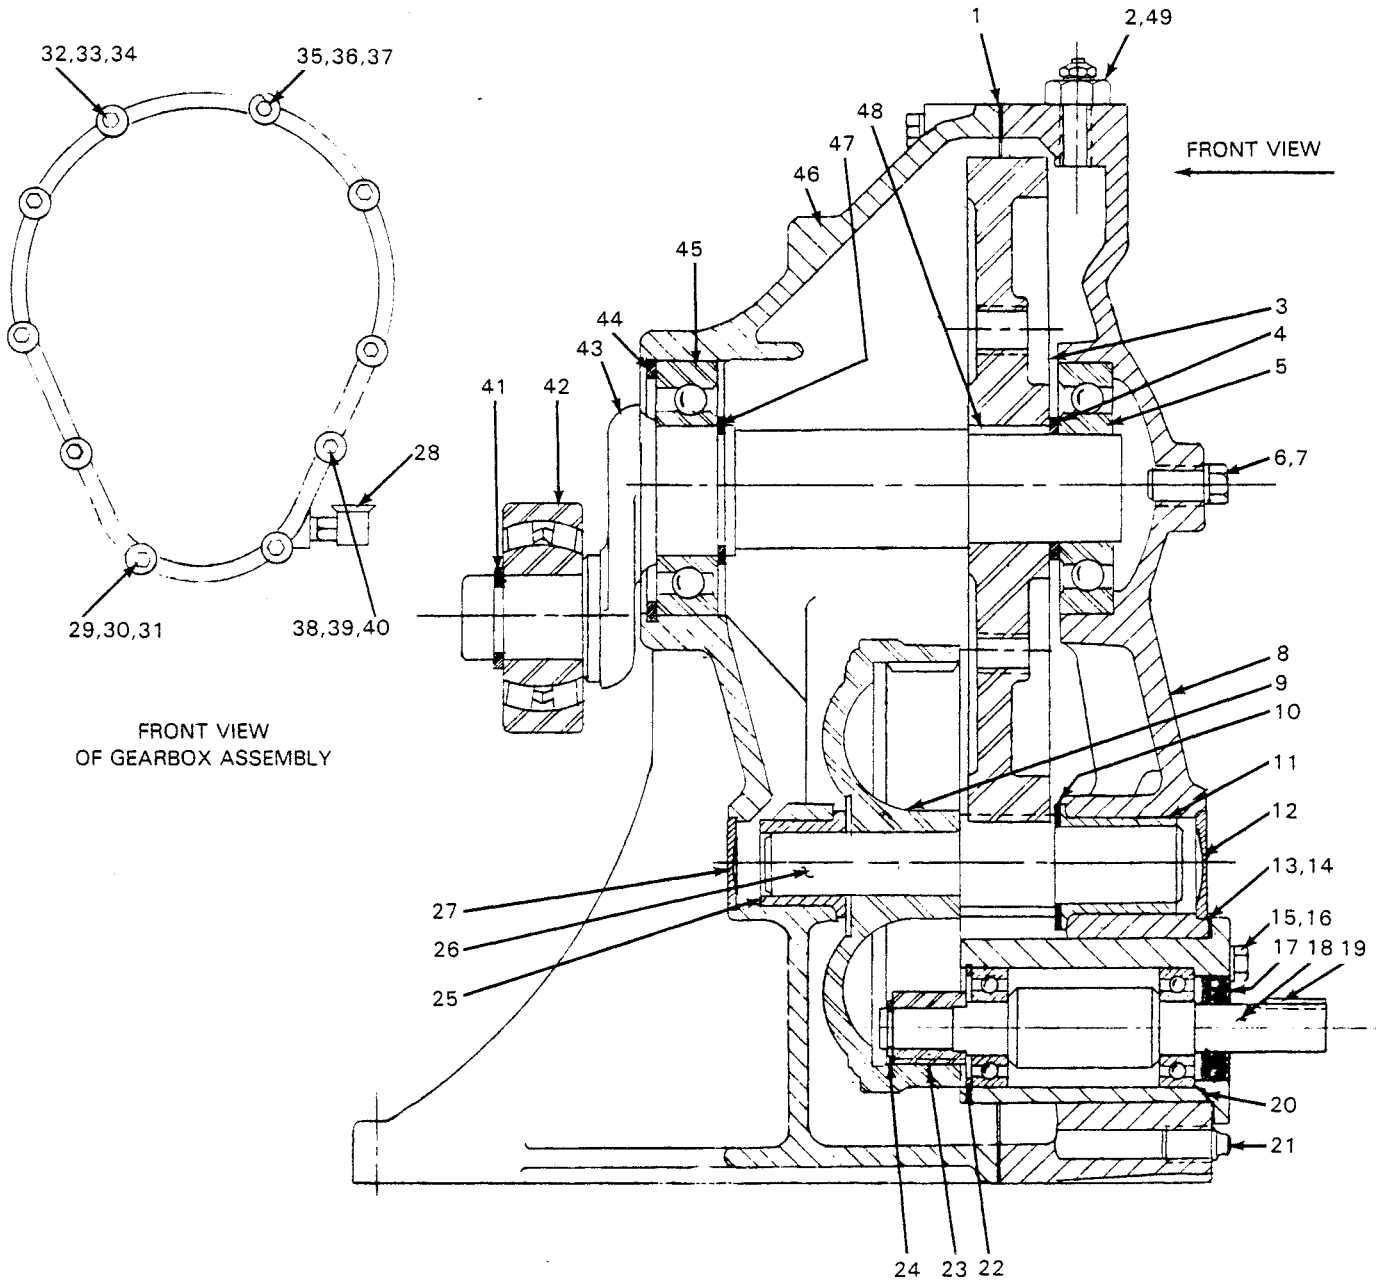

Figure 3. Gearbox Assembly 44161-010
Remove the engine, disengaging the coupling (15, figure 1) from the gearbox drive shaft (18, figure 3). Retain the drive shaft key (19).
Gearbox Disassembly (See figure 3)
PUMP REASSEMBLY**Gearbox Reassembly (See figure 3)**
Fill the bearing housing through the gearbox oil cup (28, figure 3) with a good grade of SAE No. 30 non-detergent motor oil until the oil cup is full.